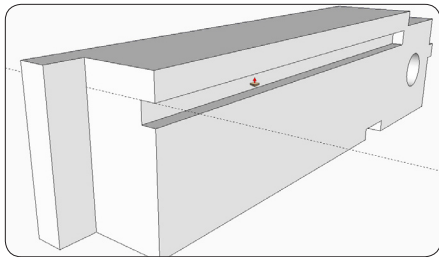

Figure 23. Use the Push/Pull Tool to make the cutout for the groove. Type a value to give the groove a precise length.
Step 20 Select the Push/Pull Tool. Use it to click on the shape of the groove, then push left to right along the red axis. Type $12\frac{3}{8}$ and press the Enter key. This creates a stopped groove exactly the right length, as shown in Figure 23. Delete the guide line.